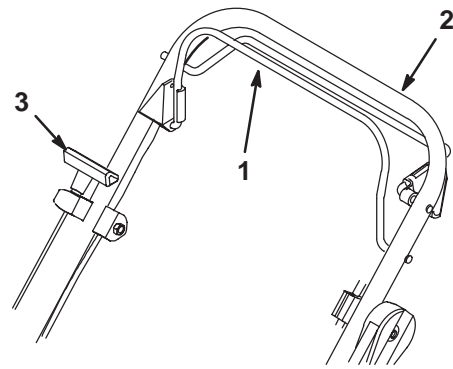

Figure 9
4. Hold the blade control bail against the upper handle (Fig. 9).
5. Pull the starter handle lightly until you feel resistance, then pull it sharply (Fig. 9). Let the rope return to the handle slowly.